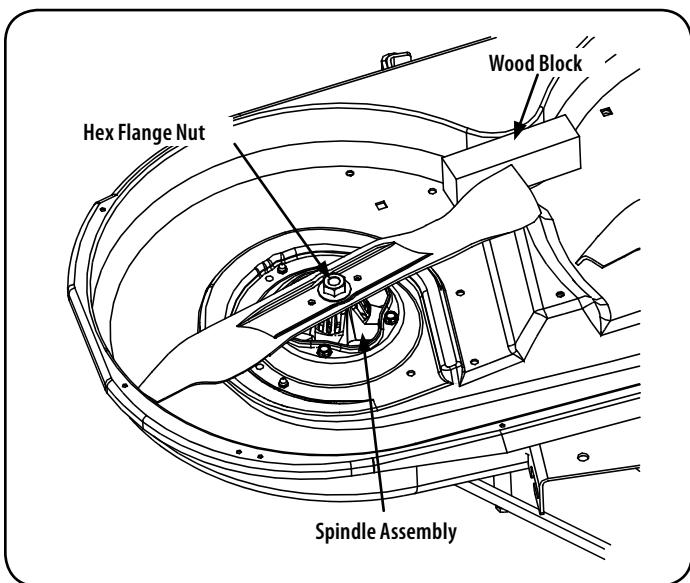

Figure 31
2. Use a $15/16"$ wrench to hold the hex nut on top of the spindle assembly when loosening the hex nut securing the blade. A block of wood may be placed between the deck housing and the cutting edge of the blade to help in breaking loose the hex nut securing the blade. See Figure 31.